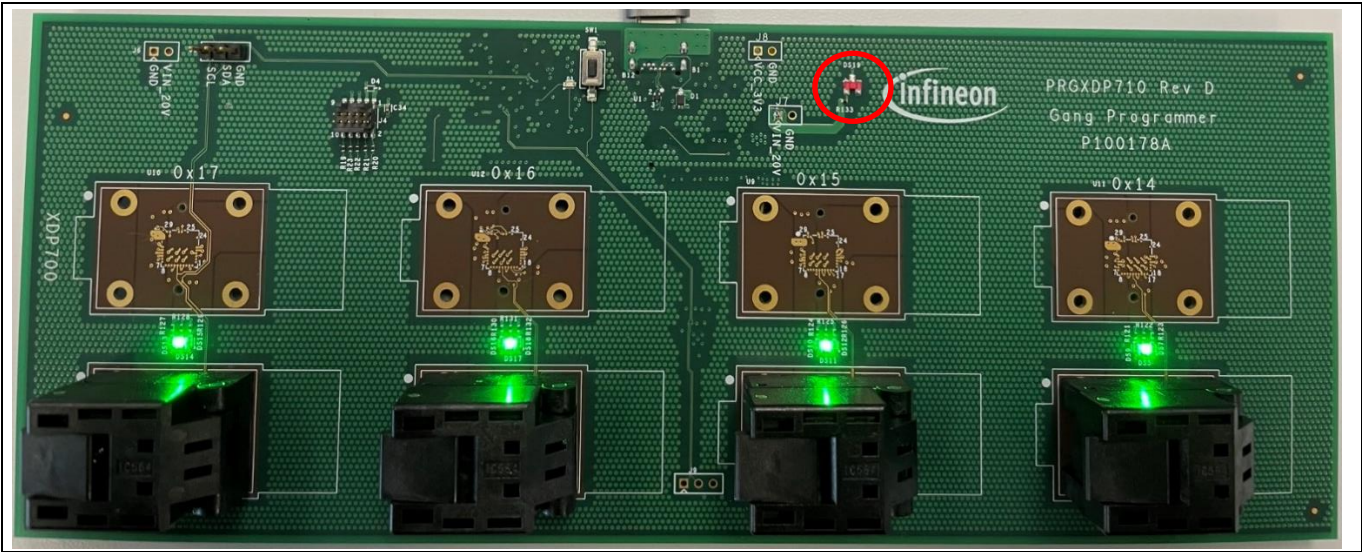

**Figure 30 Successful programming of all four devices**
- After the validation is complete, the socket voltage message indicating that the device is programmed correctly appears as shown in Figure 30.